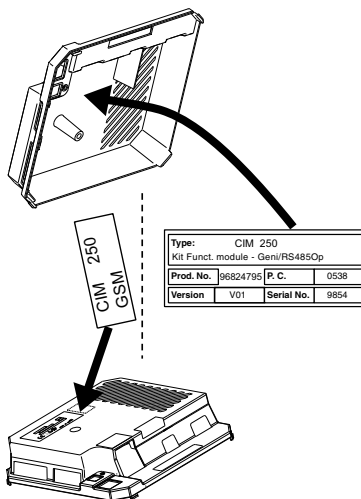

Fig. 14 Placing the new labels on the back cover
4. Place the labels supplied with the CIM module on the back cover. See fig. 14.